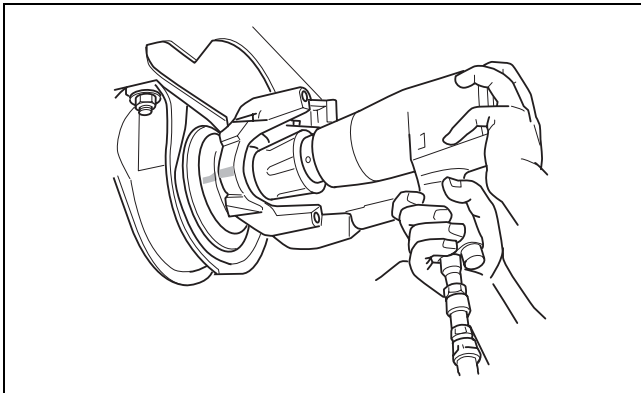

Figure 9.5
1. Remove the coupling shaft yoke nut. Discard the nut. Inspect the yoke washer. You can reuse the washer if it's not damaged. Figure 9.5.